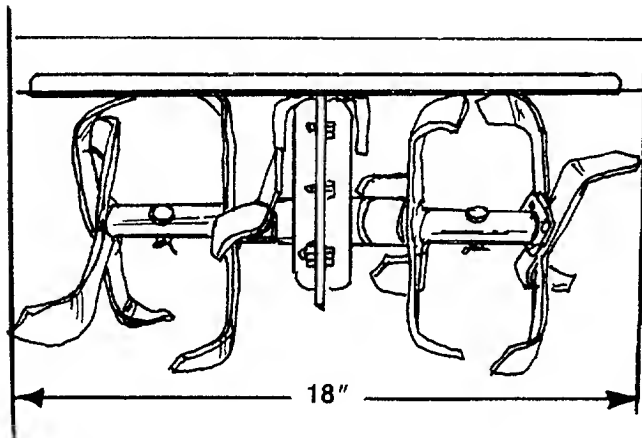

FIGURE 15.
1. Standard tilling width is 18 inches. See figure 15.